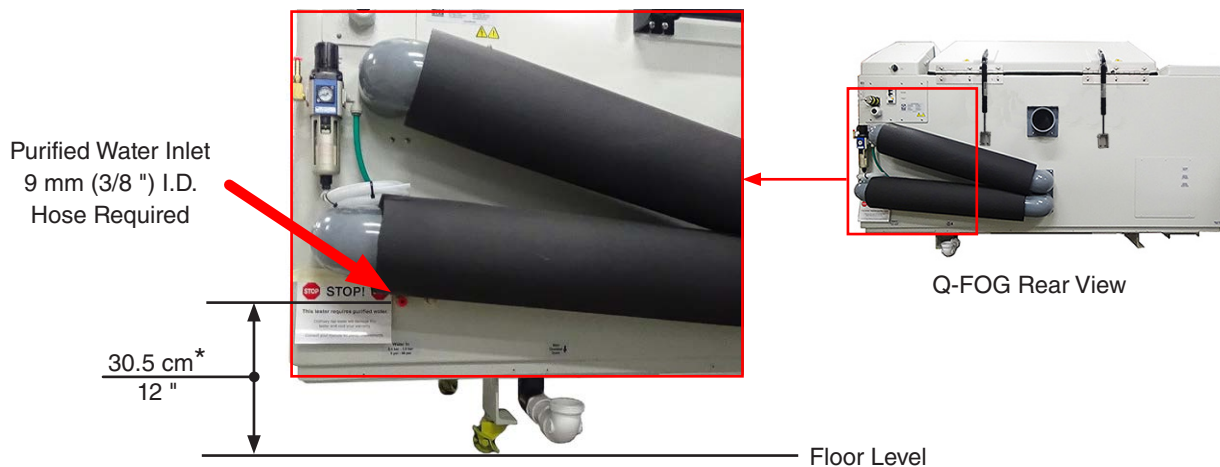
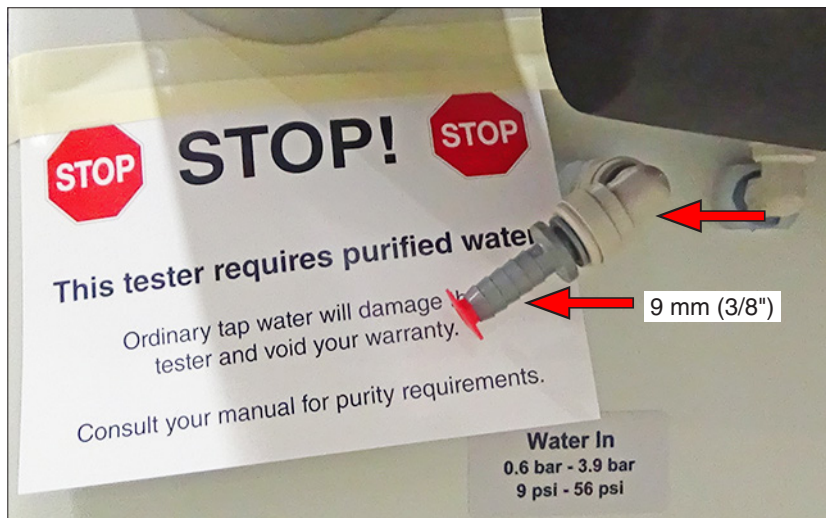

Figure 6.6c: Purified water inlet location.
Figure 6.6d: Supplied hose barb and elbow for water connection.
- A 9 mm (3/8") inside diameter purified water supply hose is required to connect to the water inlet at the rear of the cabinet (Figure 6.6c and Figure 6.6d).